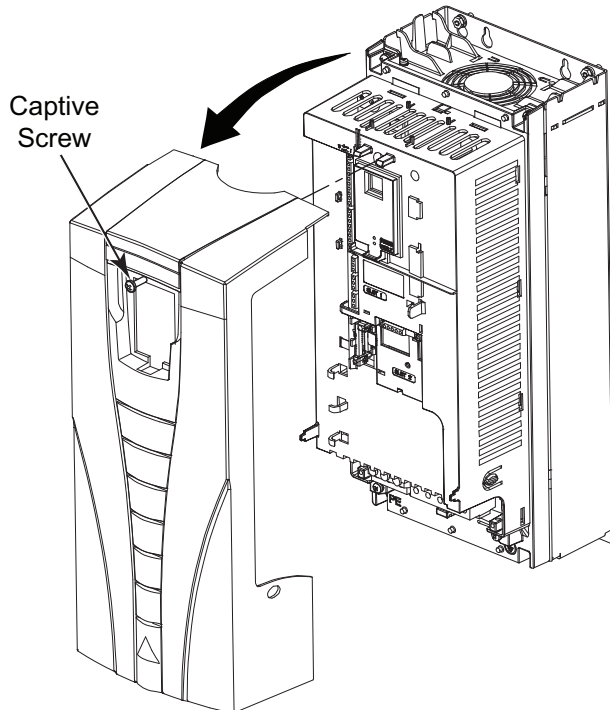

Fig. 39 — Remove ACH550 VFD Front Cover
2. Remove the drive cover (see Fig. 39).
2. Remove drive cover (see See Fig. 39 — on page 30).